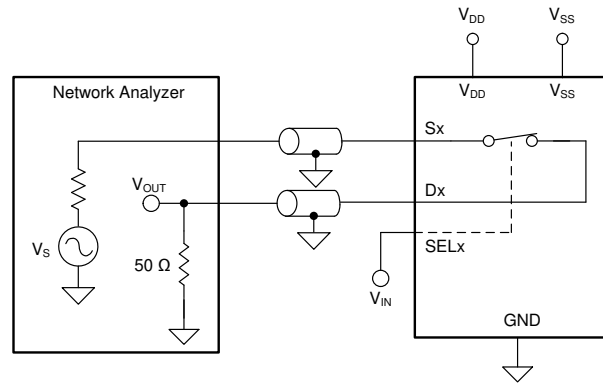

Figure 8-9. Bandwidth Measurement Setup
Bandwidth is defined as the range of frequencies that are attenuated by < 3 dB when the input is applied to the source pin (Sx) of an on-channel, and the output is measured at the drain pin (D) of the TMUX6121, TMUX6122, and TMUX6123. Figure 8-9 shows the setup used to measure bandwidth of the switch. Use Equation 4 to compute the attenuation.